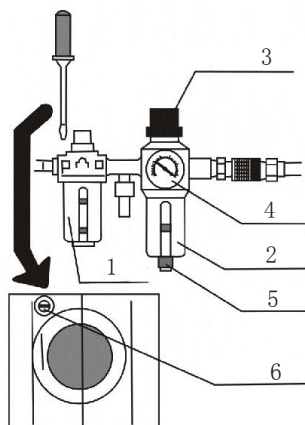

Fig. 14
- See Fig. 14: 1- Lubricator; 2- Filter; 3- Regulator